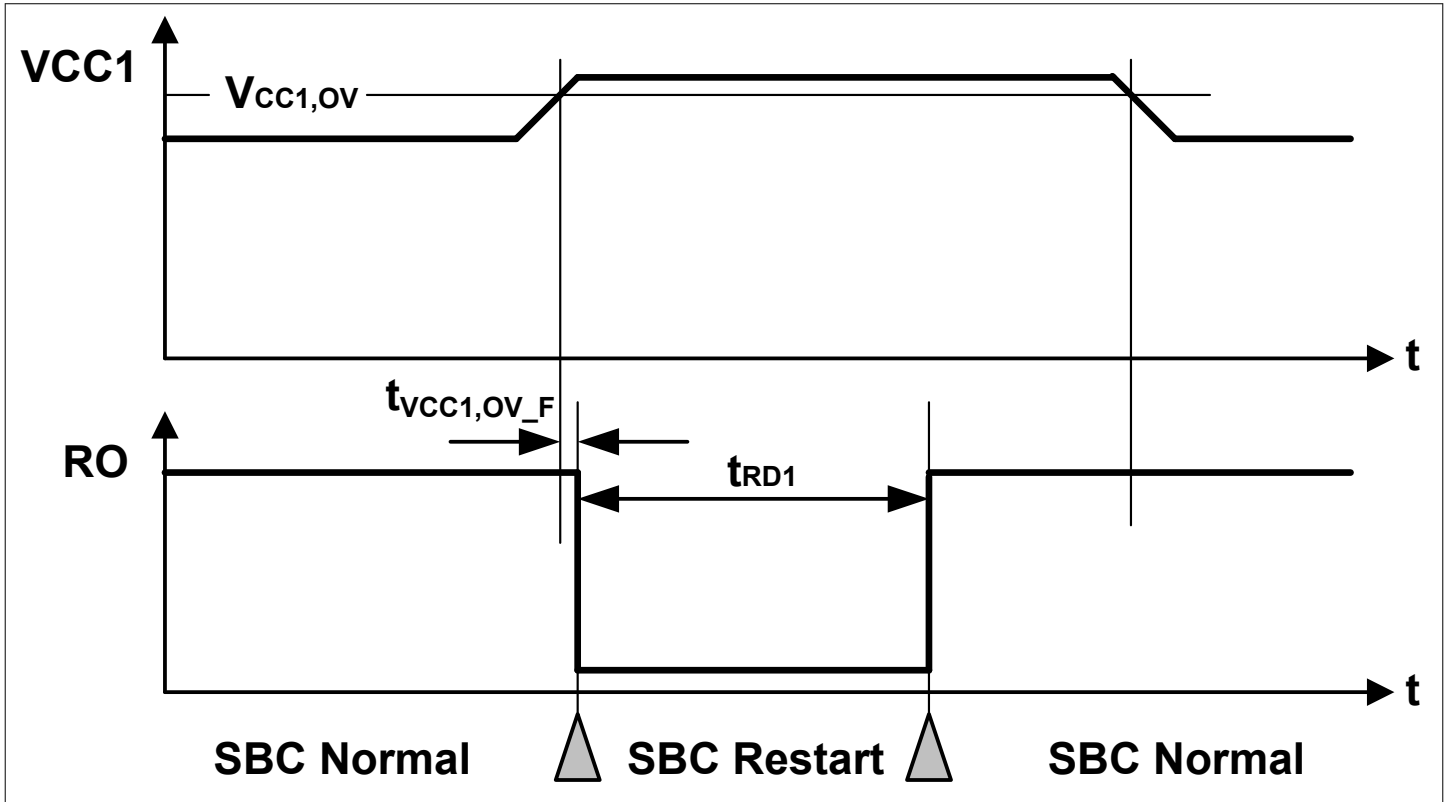

Figure 53 VCC1 Overvoltage Timing Diagram
- If the bit `VCC1_OV_RST` is set and `CFGP` = '1', then SBC Restart Mode is entered. The FOx outputs are activated. After the reset delay time (`t_RD1`), the SBC Restart Mode is left and SBC Normal Mode is resumed even if the VCC1 overvoltage event is still present (see also Figure 53). The `VCC1_OV_RST` bit is cleared automatically;